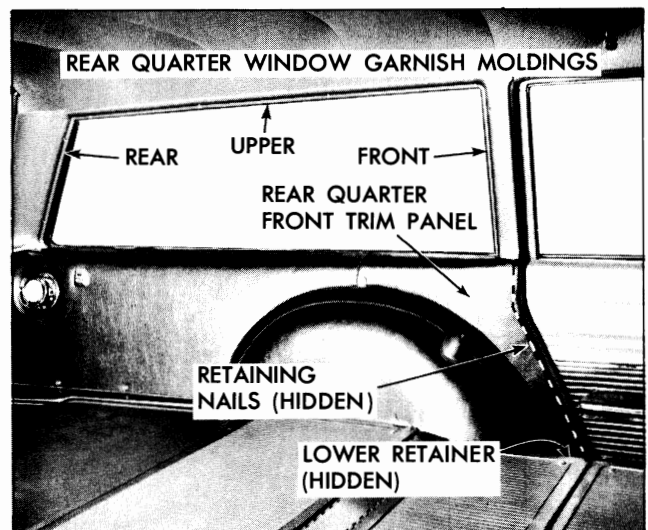

Fig. 4-13 Rear Quarter Trim - Station Wagon
6. Lift panel upwards to disengage from quarter inner panel, and remove assembly from body (Fig. 4-13).
3. Lift panel slightly upward to disengage from quarter inner panel and rearward to disengage from rearward section of rear quarter front trim panel (see Fig. 4-13).